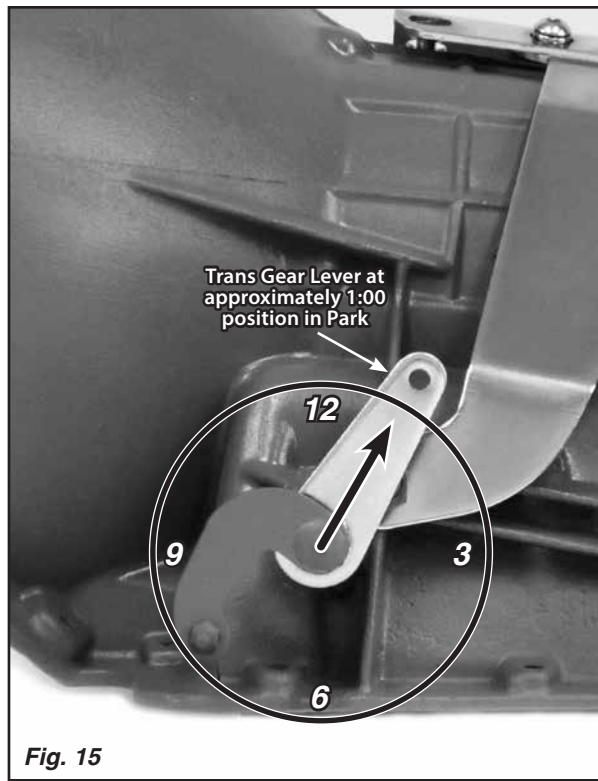

Fig. 15
**Step 22:** Remove the rod end from the new trans gear lever. Place the trans gear lever in the Park position with the top of the lever pointing up and slightly towards the rear of the transmission, at about the 1:00 position. **Fig. 15**